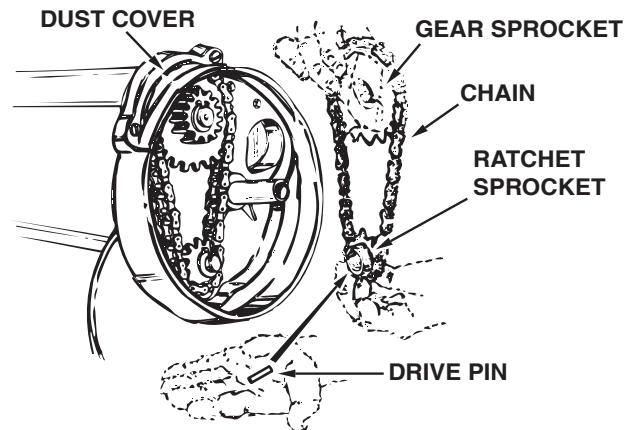

FIGURE 23
- Remove the chain and both sprockets, holding them in position and sliding them off both of the shafts. (Look for the drive pin, which may fall out of the brush shaft when the ratchet sprocket is removed.) See figure 23.